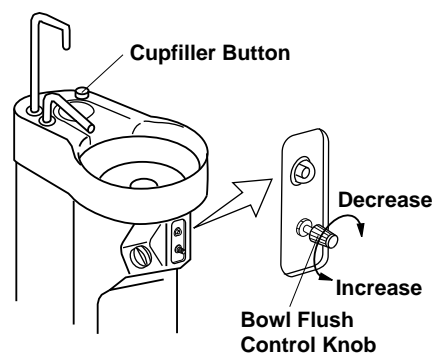

Fig. 3-8 Cupfiller and Bowl Flush
(1) Cupfiller (Fig.3-8)
(2) Bowl Flush (Fig.3-8)